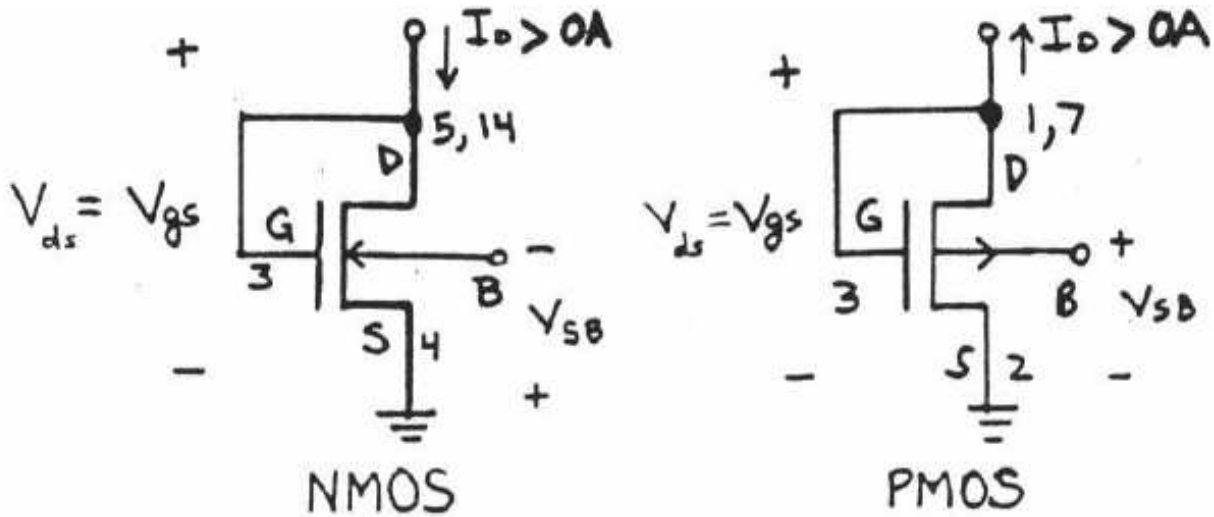

Figure 1: Connections for measuring drain current  $I_D$  as a function of  $V_{DS} = V_{GS}$ .
**Part 1 (10 points)** Use the connections shown in Figure 1 to measure drain current  $I_D$  as a function of  $V_{DS} = V_{GS}$  for  $V_{DS} = 3, 3.5, 4, 4.5, 5, 5.5, 6$ , and  $6.5$  Volts for NMOS devices. Make these measurements at  $V_{SB} = 0, 2$ , and  $5$  V, making sure that the body is *negative* with respect to the source.